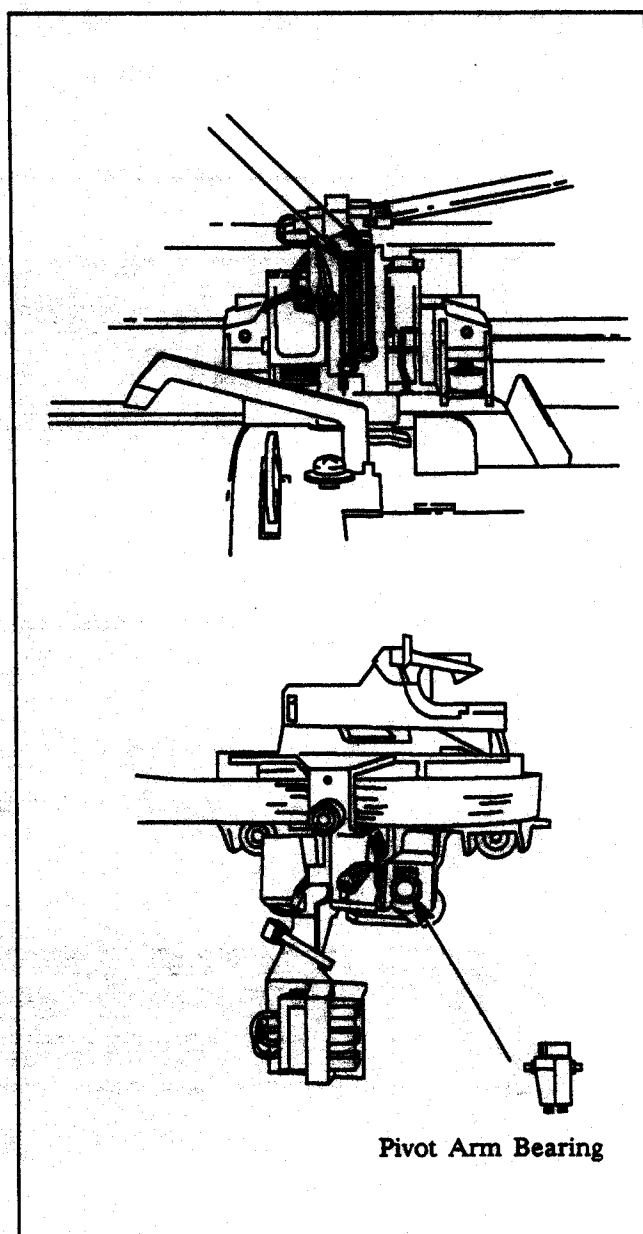

Figure 6-28. Pen Carriage Removal
- a. Gently turn the Y arm over to expose the pen carriage springs at the rear of the pen carriage. See Figure 6-28.
- b. Gently unhook and remove the pen carriage springs. See Figure 6-28.
Be careful not to lose the pivot arm bearing as the pen carriage is removed in the next step. See Figure 6-28.